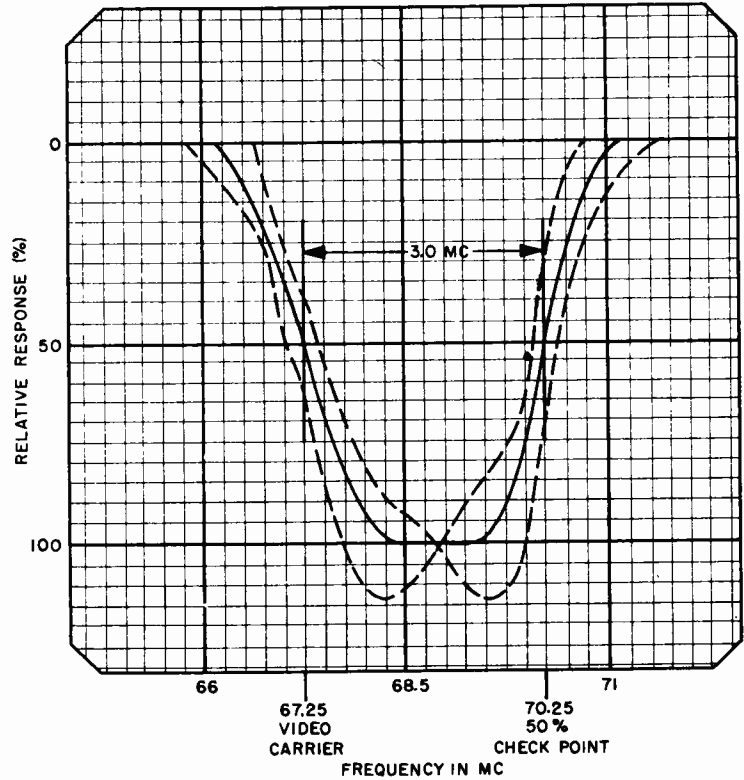

Figure 8. Over-all R-F, I-F Response Curve, Showing Tolerance Limits
5. If the response curve does not fall within the limits shown in figure 8, the adjustment of the tuning cores may be touched up slightly while observing the response curve with the sweep generator. Do not touch the setting of TC200 and TC203. To adjust the curve, adjust TC201 and TC204 for proper video carrier level. The top of the curve may be leveled by adjusting TC205, and the low-frequency
side of the curve may be adjusted by adjusting TC202. By means of these adjustments the response curve should be brought within the limits shown in figure 8.